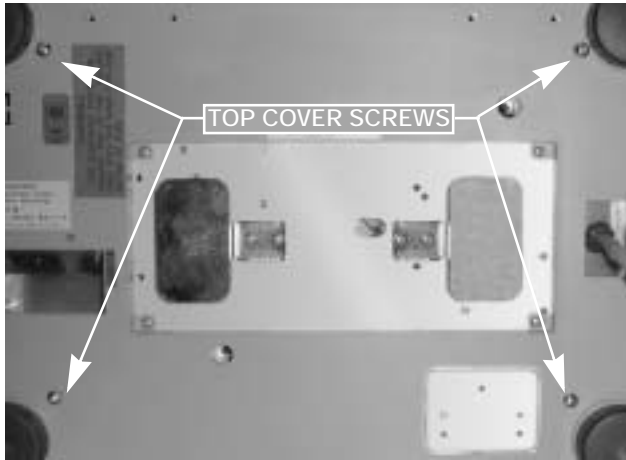

Figure 2-7. Location of Top Cover Screws
- Place scale on side. Remove four top cover screws (shown in Figure 2-7). Set scale on legs and remove top cover.